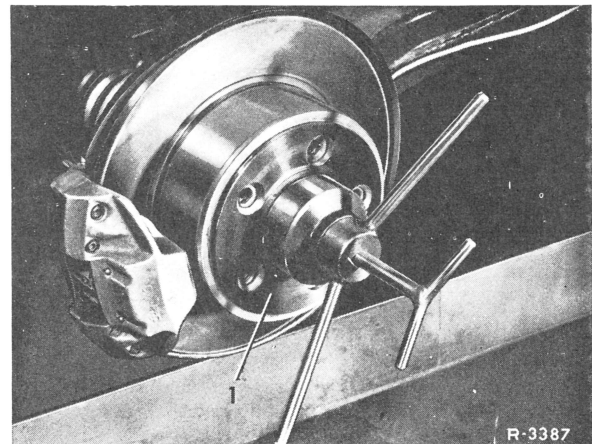

Fig. 21
**23** Install rear axle shaft (Fig. 21).